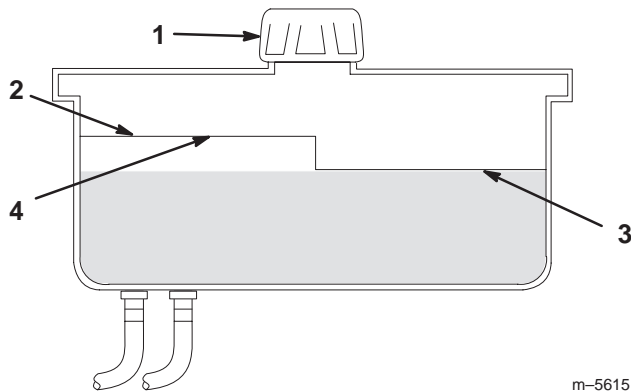

Figure 45
2. Clean area around filler neck of hydraulic tank (Fig. 45).
3. Remove cap from filler neck. Look inside to check if there is fluid in the reservoir. (Fig. 45).
Note: The fluid level should be to the top of the **hot** level of the baffle, when the fluid is warm (Fig. 45).